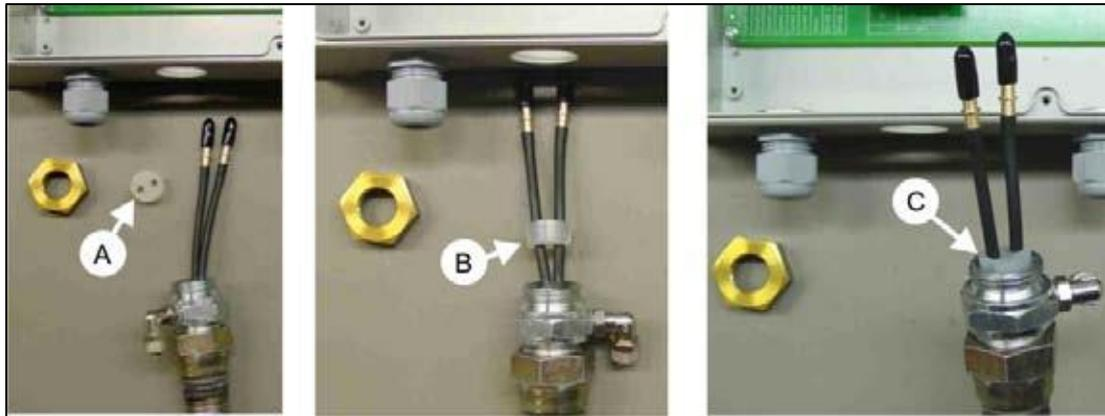

Fig. 2.13. Multi air seal inserting.
3. Place the multi air seal on top of the fiber optic cables, Fig. 2.13, points A & B.